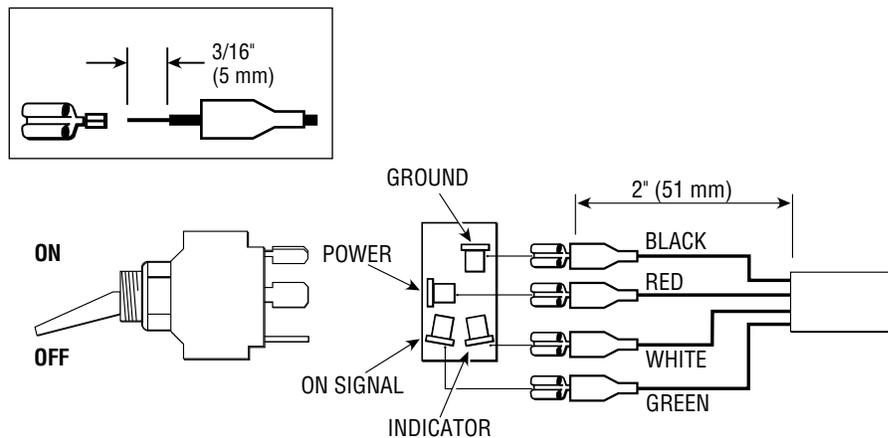

Figure 2-23. ON/OFF Switch Connections
6. Connect the terminals to the switch as shown. (Figure 2-23.)